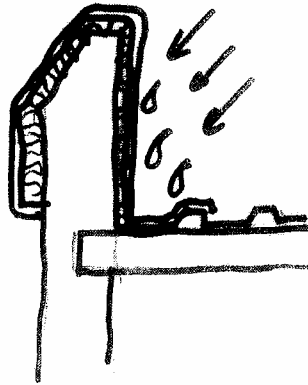

Figure 10.6 – Protect the parapet wall
- ❖ If possible, cover both faces with exterior insulation. Apply waterproofing from the roof surface right over the top of the parapet and 500mm down on the other side. *Fig10.6*